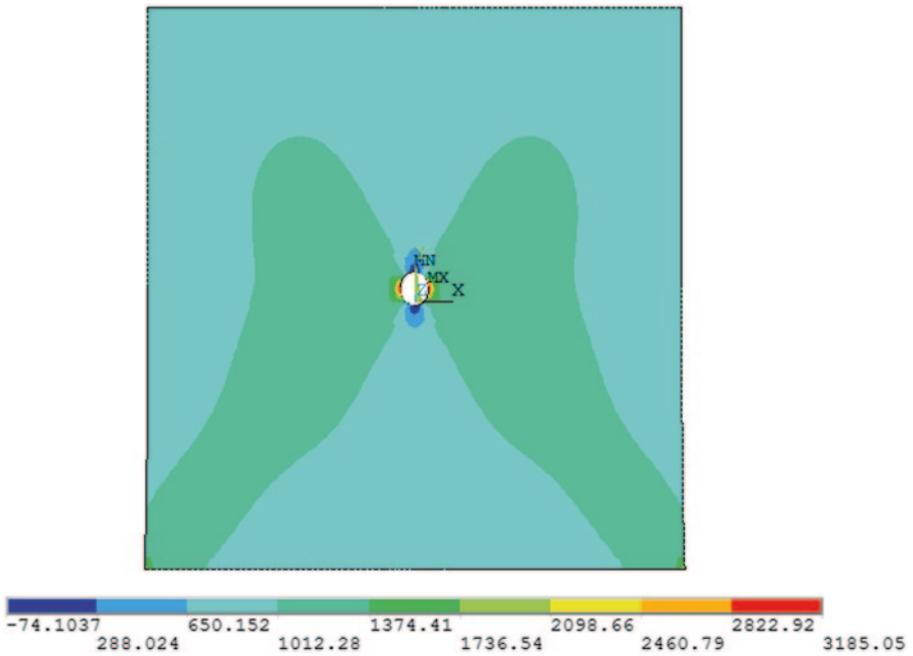

Fig. 8.16 Contour plot of σ_{yy}
- The Contour plot of σ_{yy} is obtained similarly by selecting the **Y-component of stress** from the list and clicking on **OK** (shown in Fig. 8.16).